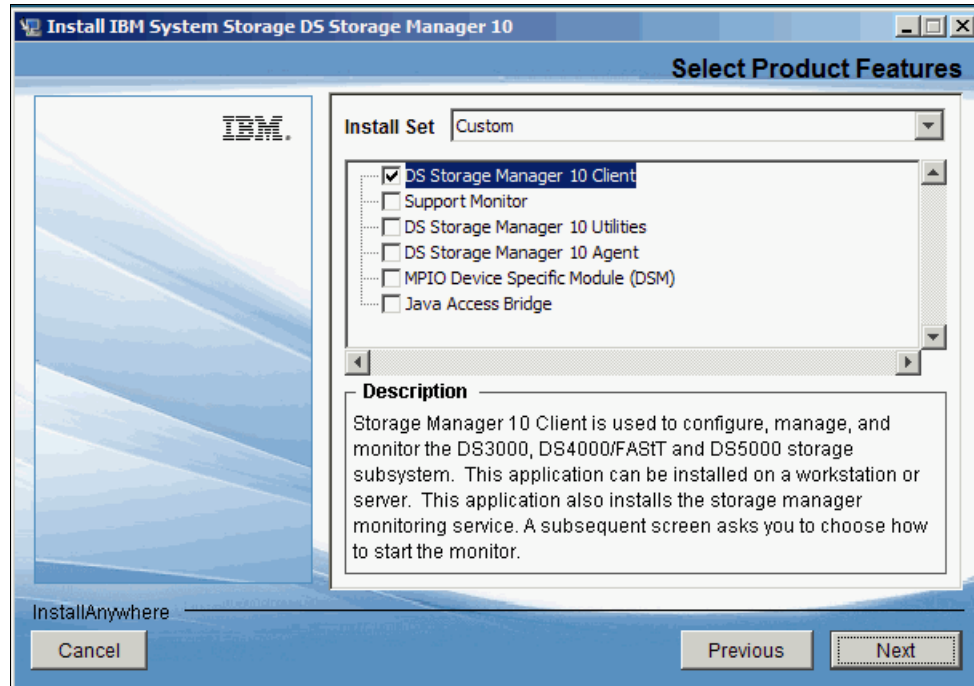

Figure 5-8 Select product features to install
8. In Figure 5-8 on page 137, select **Install Set** from the drop-down menu. The options in the drop-down menu are same as shown in Figure 5-7. When you select an Install Set, you can see what components will be installed and modify them if you desire. See 2.6, "IBM System Storage DS Storage Manager" on page 22 for a description of each component. Our example shows the client selection because the system being installed is for management purposes and the other components are not required for it.